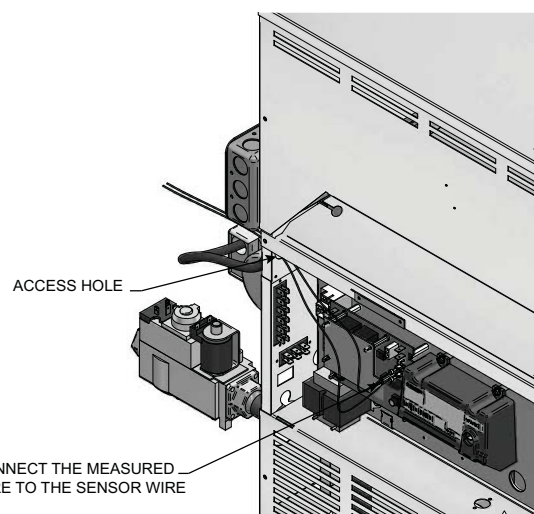

Figure 5-5 Installation of Remote Sensors
5. Connect the measured wire to the sensor wire using wire caps (see FIG. 5-5). Install .250 x .032 insulated female quick connect terminals to the end of the wires. Feed the wires through the access hole located on the back of the unit and secure the connectors to the thermostat connections (Sys/Tank) CN5 and CN6 located in the upper right-hand of the thermostat.